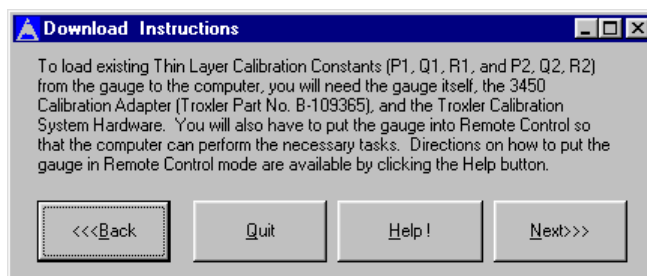

Figure 3–10. Download Instructions Window for Troxler Calibration Control System
16. The software now prompts the user to select the serial communications (Com) port settings for the computer. This display is similar to the one shown in Figure 3–6 on page 3–14. Select the desired Com port and baud rate from the dropdown lists and click **<Select>**, or click **<Back>** to return to the previous display.